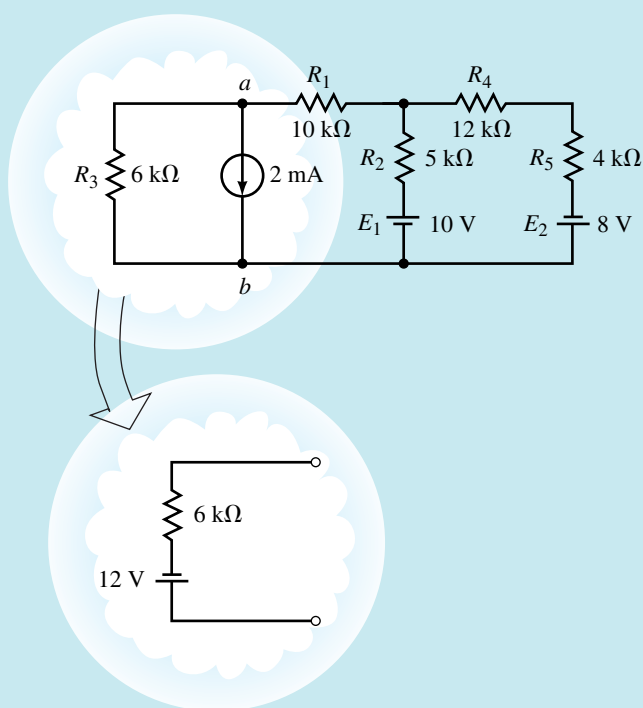

FIGURE 8-27
Step 1: Although we see that the circuit has a current source, it may not be immediately evident how the source can be converted into an equivalent voltage source. Redrawing the circuit into a more recognizable form, as shown in Figure 8-27, we see that the 2-mA current source is in parallel with a 6-kΩ resistor. The source conversion is also illustrated in Figure 8-27.